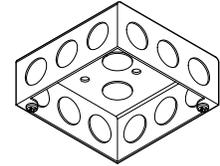

FIG 4.1 Junction Box Type Required
- STEP 1** Determine driver type & junction box requirements - **FIG 4.1**.